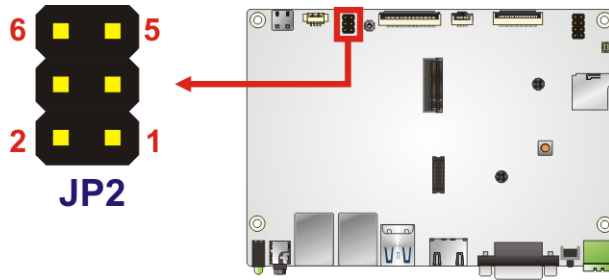

Figure 3-11: RS-232/485 Connector Location
- CN Location:** See **Figure 3-11**